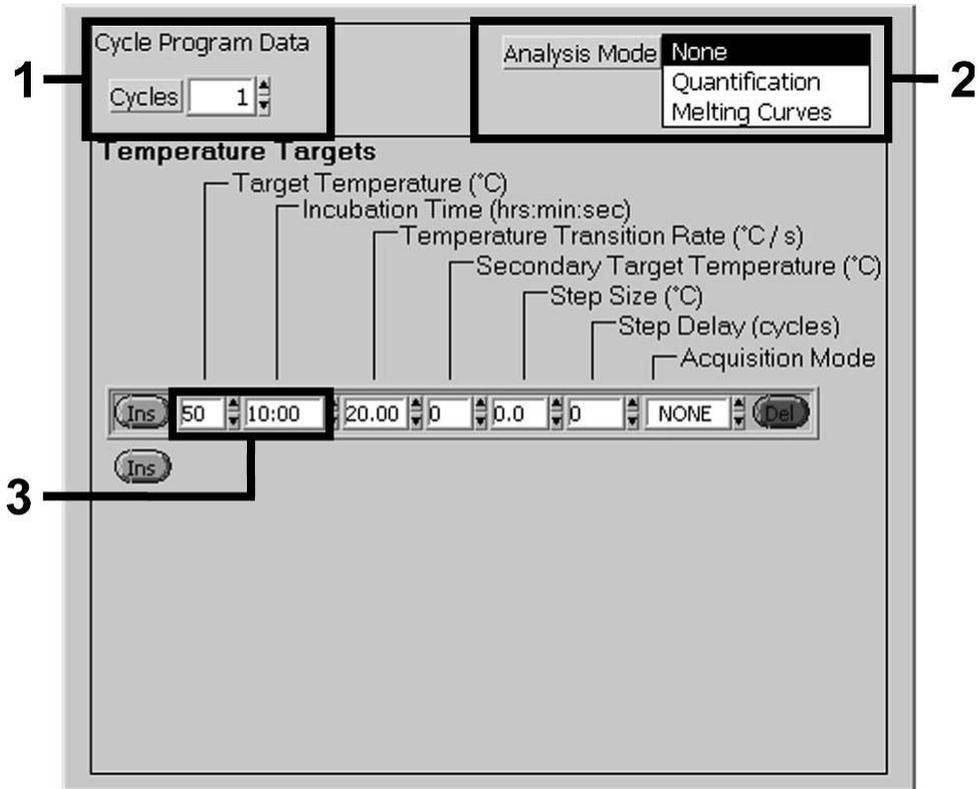

Figure 13. Reverse transcription of the RNA.
- For the detection of influenza virus RNA, create a temperature profile according to the following 4 steps (see Figures 13–16).**
Reverse transcription of the RNA	Figure 13